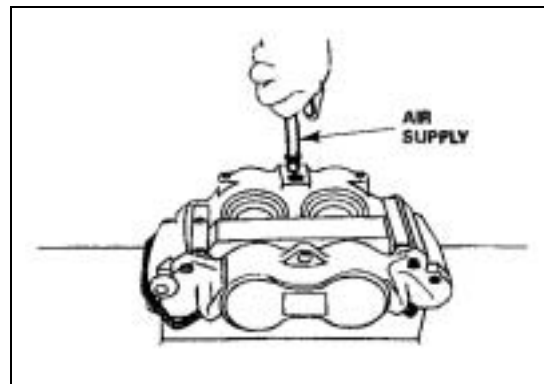

Figure 11
6. Apply low air pressure (no more than 25 psi (172 kPa) to the fluid port in the caliper to move the caliper pistons out to the wood block. **Figure 11.**